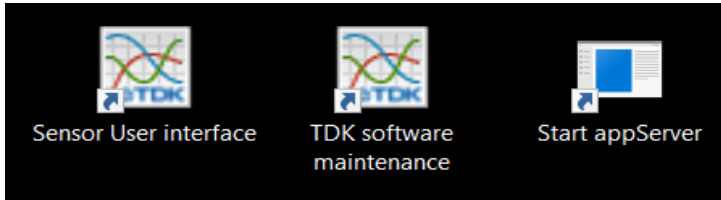
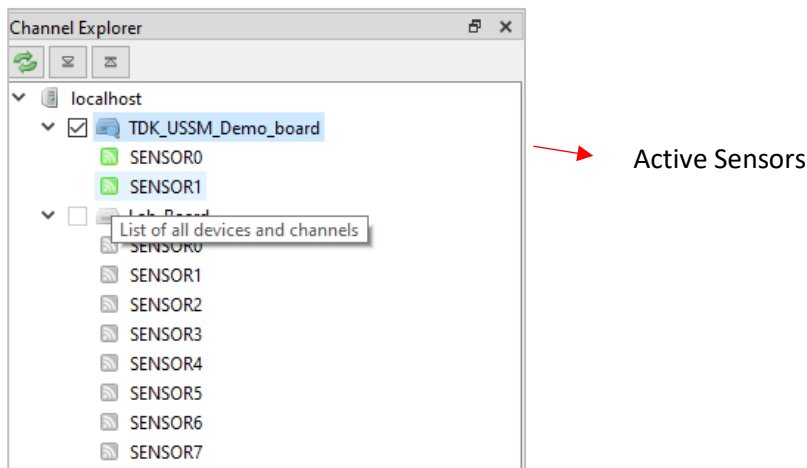

Figure 3: Installed software icons on Desktop
Figure 11: channel explorer with available boards and connected sensors
9. After successful installation, 3 icons namely “Sensor User Interface”, “Start app Server” and “TDK software maintenance” are shown on desktop as seen in Figure 3.
Fig. 3 shows the channel explorer. It displays available boards and the sensors that are connected to it. The status information of each sensor is displayed on color coding. Green color corresponds to active connection to sensor. If the sensor is not connected, then it is represented in gray color as in Figure 11.